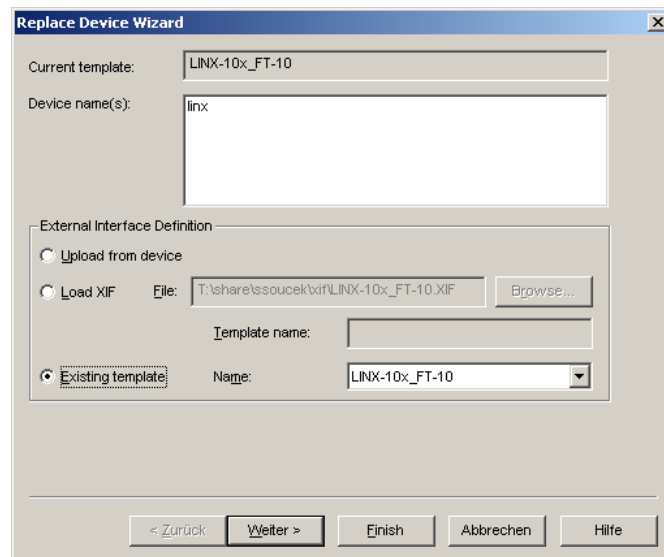

Figure 87: LonMaker replace device wizard.
2. Select **Commissioning** → **Replace....** This opens the LonMaker Replace Device Wizard as shown in Figure 87.